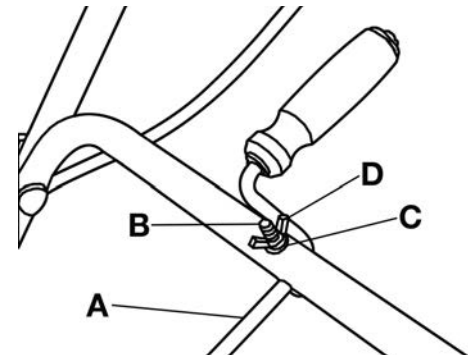

FIGURE 17
16. Position the chute crank (A) Fig.17 so that the eye bolt with rubber grommet (B) inserts into the centre hole of the middle frame (C). Secure with washer, spring washer and wing nut (D).